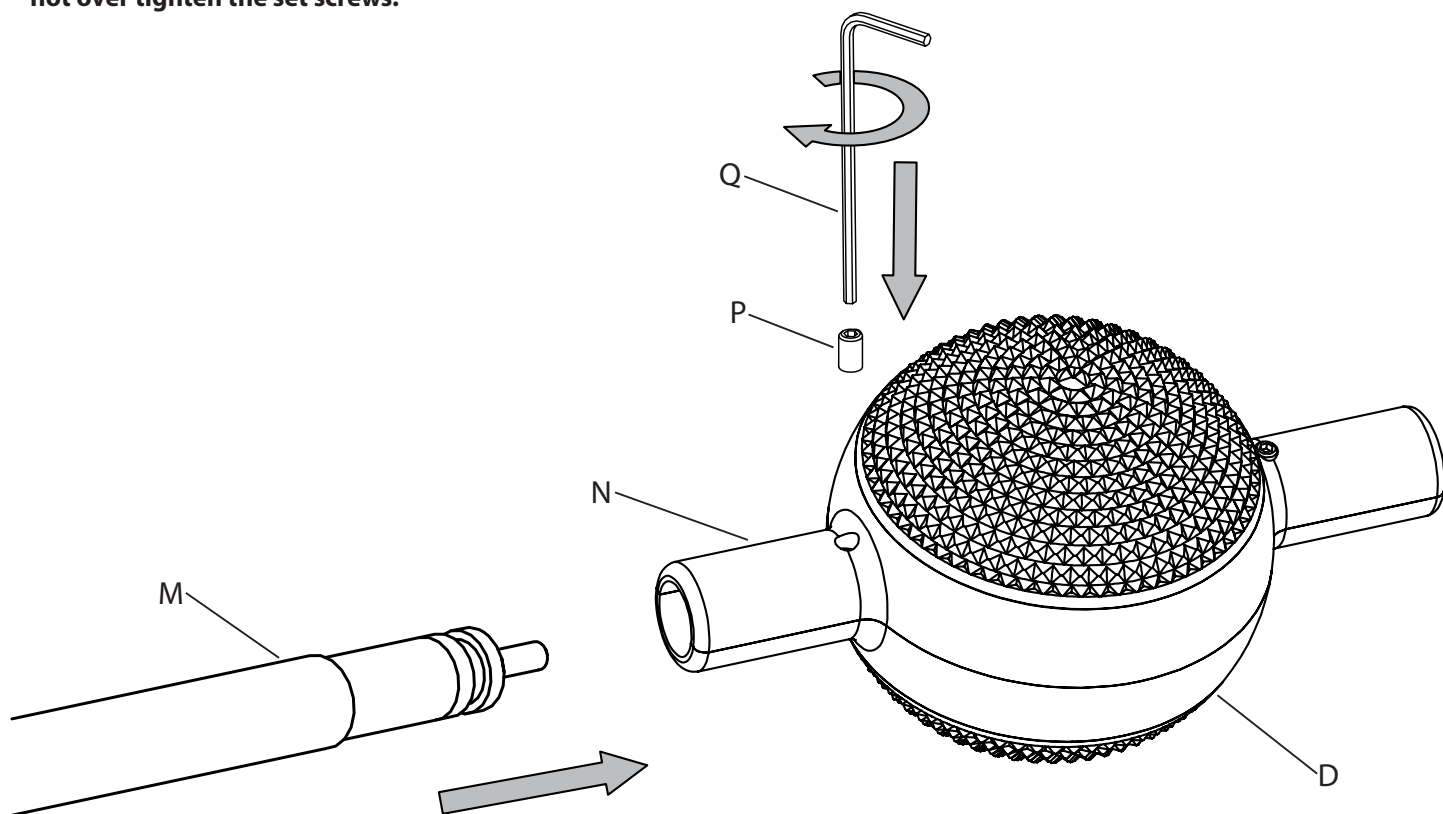

Fig. 2
Attach a Linear Hub (D) to the end of each Cord Power Feed Hanger (M) by fully inserting into a Neck (N) on the Hub (Fig. 2). Install the M2 Set Screw (P), using the Small Hex Wrench (Q) provided, and tighten until it comes in contact with the plastic cap on the Hanger. Use the diagram (Fig. 3) and the following page for installation pattern. **CAUTION: Do not over tighten the set screws.**